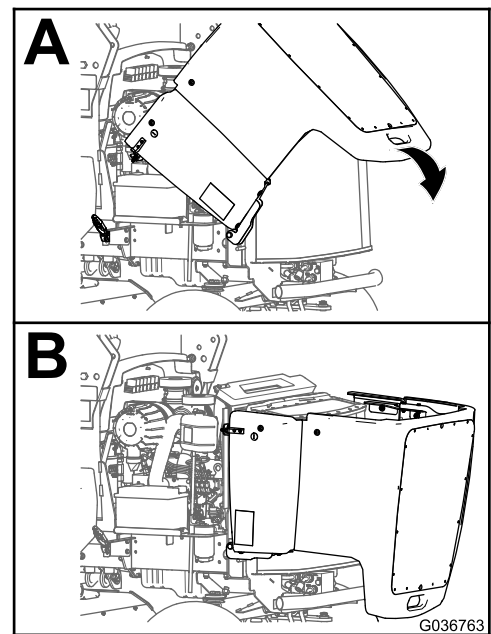

Figure 4
3. Carefully rotate the hood back and down (Figure 4).